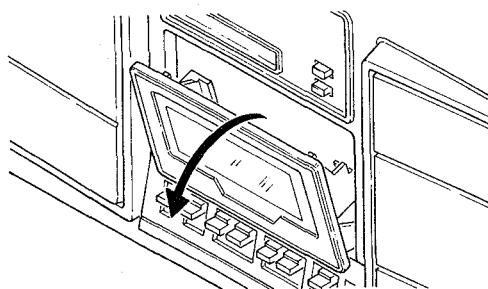

Fig. 5
2. Apply force in the direction of the arrow. (Fig. 5) And then remove the cassette holder.